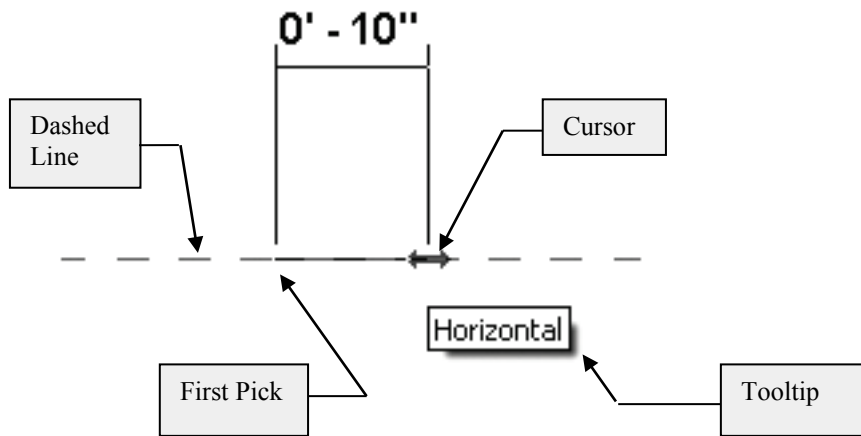

FIGURE 3-1.11 Drawing a line with the help of Revit
25. Start moving the mouse towards the right and generally horizontal until you see a dashed reference line extending in each direction of your line appear on the screen, as in Figure 3-1.11.